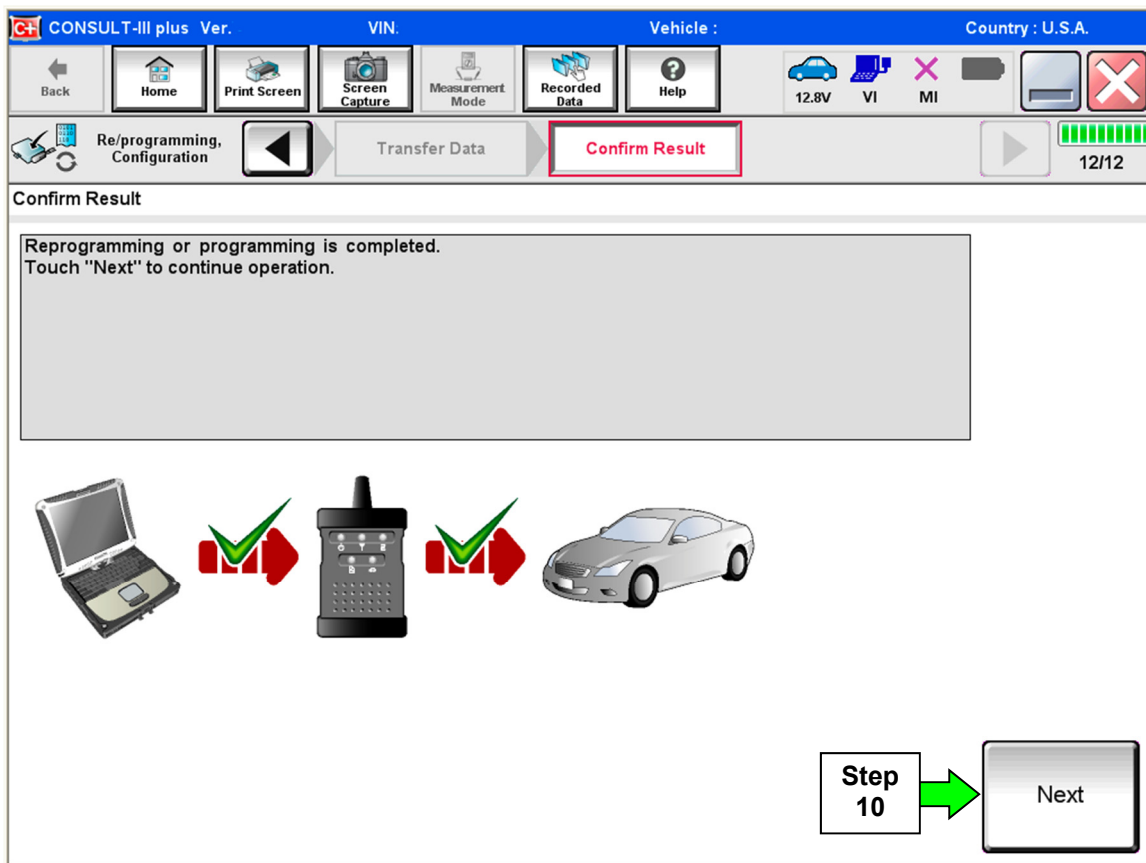

Figure 5
8. When the screen in Figure 5 displays, reprogramming is complete.
**NOTE:** If the screen in Figure 5 does not display (reprogramming does not complete), refer to the information on page 7.